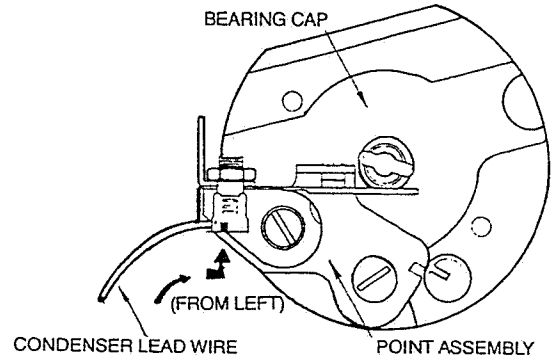

Figure 7.16
- B. Attach the terminal with the lead pointing left. (See Figure 7.16).